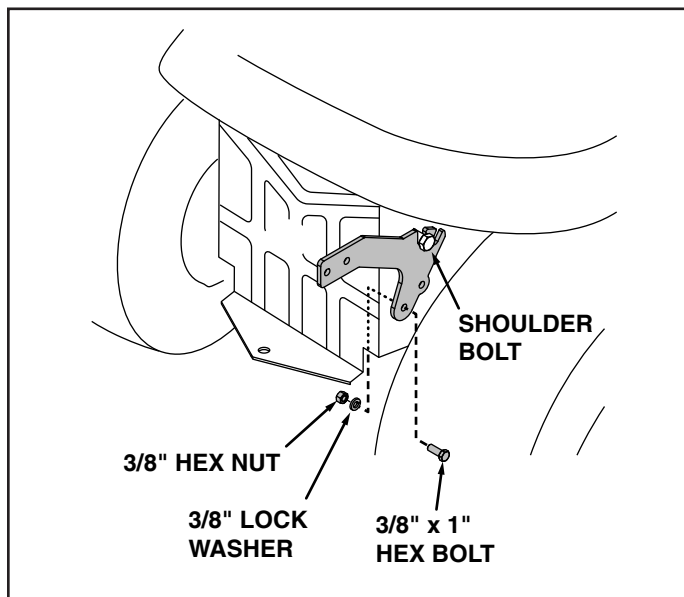

FIGURE 4
1. Place the second notch in top of weight bracket arm (2) onto shoulder bolt in side of drawbar. Secure bottom of arm to drawbar using a 3/8-16 x 1" hex bolt (3), a 3/8" lock washer (9) and a 3/8"-16 hex nut (11). Repeat on other side. See figure 4.
2. Assemble the weight bracket (1) to weight bracket arms (2) using four 3/8-16 x 1" hex bolts (3), 3/8" lock washers (9) and 3/8"-16 hex nuts (11). See figure 4.
3. Assemble wheel weight to weight bracket (1) using two 1/2" x 5-1/2" hex bolts (14), 1" O.D. washers (5), 1/2" lock washers (8) and 1/2"-13 hex nuts (10). Tighten securely. See figure 4.